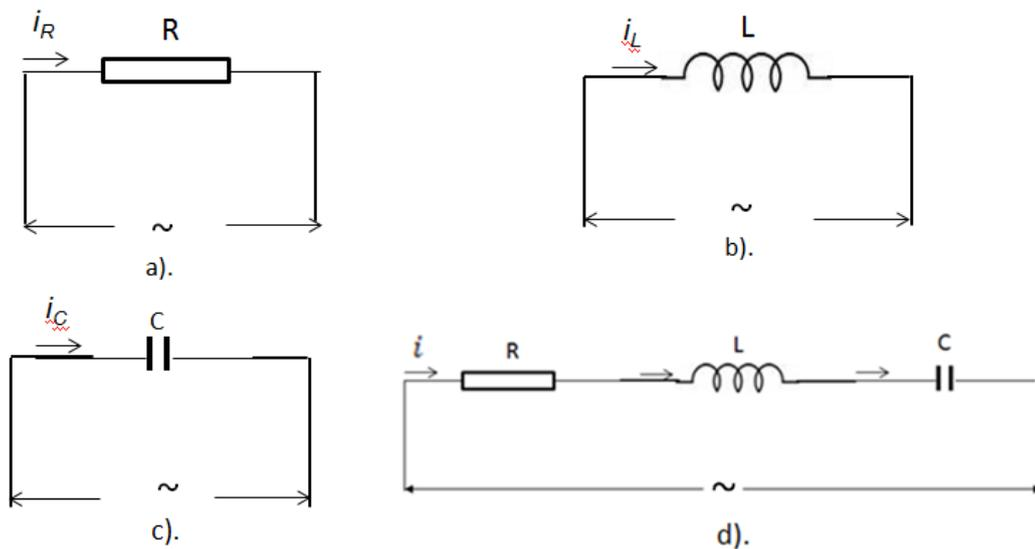

Figure 2: Electrical circuits
Determine the impedance for different frequencies of the AC power source, in Figure 2, when connected to a circuit consisting of:
The impedance is calculated for each electrical circuit in Figure 2 and different frequencies for the AC voltage.
a. An alternating current circuit with an ohmic resistor is shown in Figure 2.a. The impedance in the circuit is calculated by the formula:
b. An alternating current circuit with a coil is shown in Figure 2.b. The impedance in the circuit is calculated by the formula:
c. An alternating current circuit with a capacitor is shown in Figure 2.c. The impedance in the circuit is calculated by the formula:
d. An alternating current circuit with a resistor, coil and capacitor connection (serial RLC circuit) is shown in Figure 2.d. The impedance in the circuit is calculated by the formula:
The simulation of the measurements is performed separately for each electrical circuit, according the order in Figure 2.